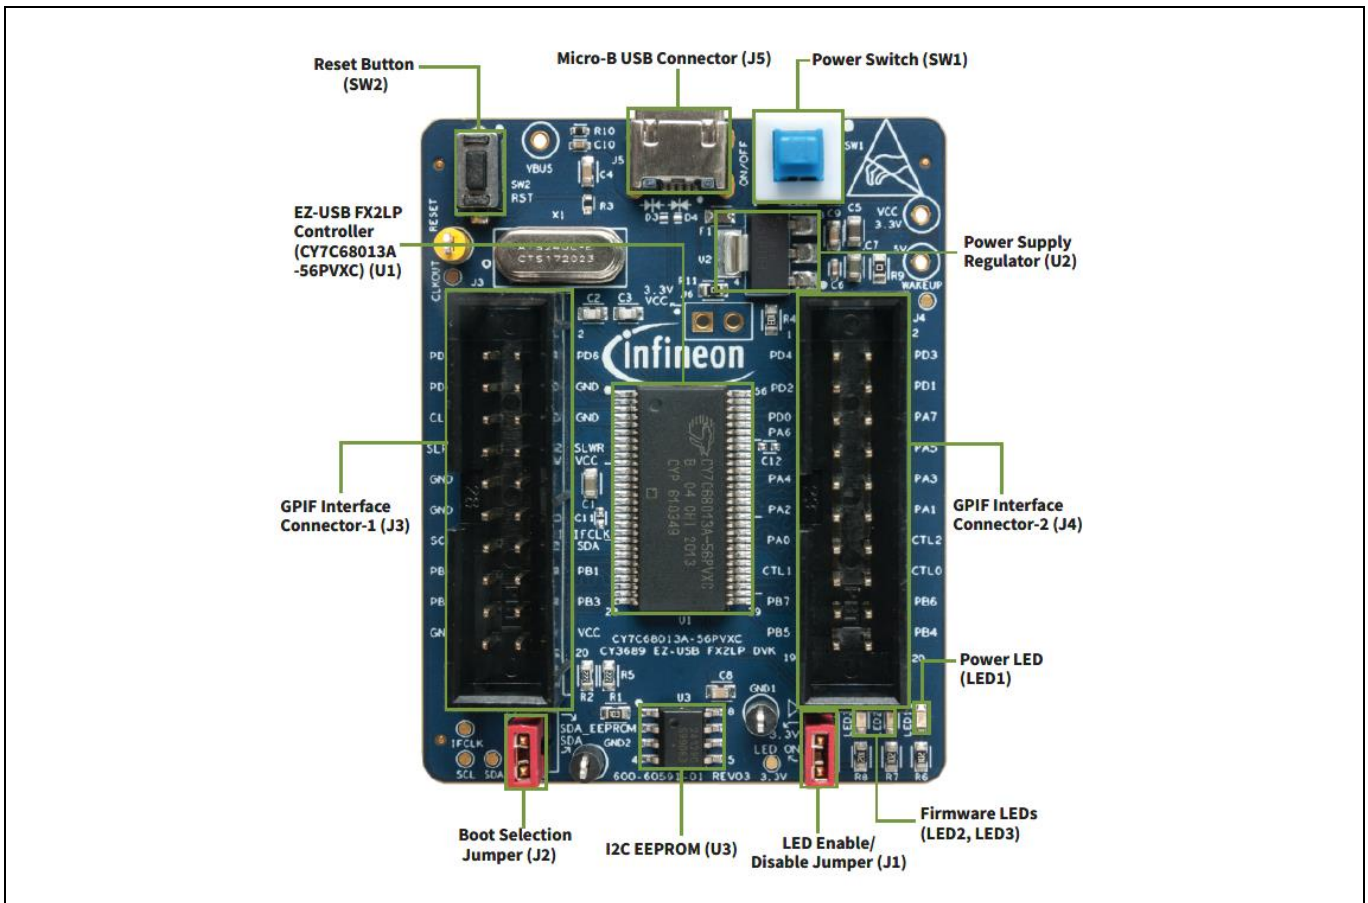

Figure 29 CY3689 EZ-USB FX2LP Discovery Kit
**Figure 29** shows the CY3689 EZ-USB FX2LP Discovery Kit with the interface connectors, jumpers, and critical components.